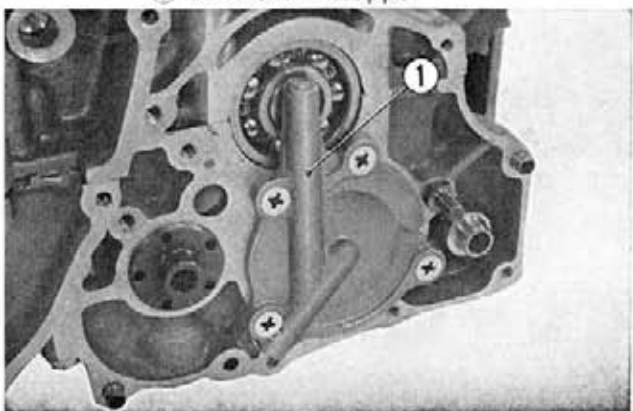

Fig. 3-72 ① Counter shaft bearing holder
11. Remove the counter shaft bearing holder. (Fig. 3-72)